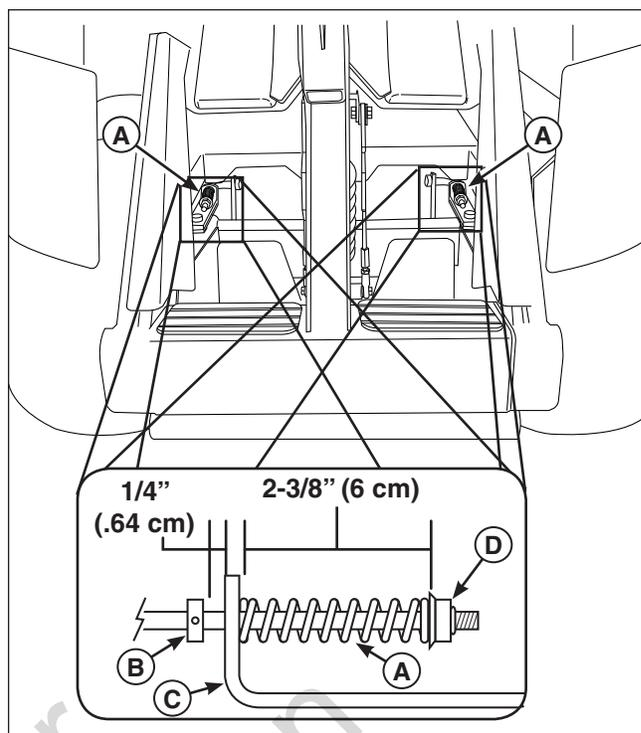

Figure 34. Parking Brake Adjustment
1. Locate the two (2) brake springs (A, Figure 34).
5. Loosen the set collar (B) and slide it away from the back of the parking brake bracket (C).
6. Turn the adjustment nut (D) to compress or release the spring.